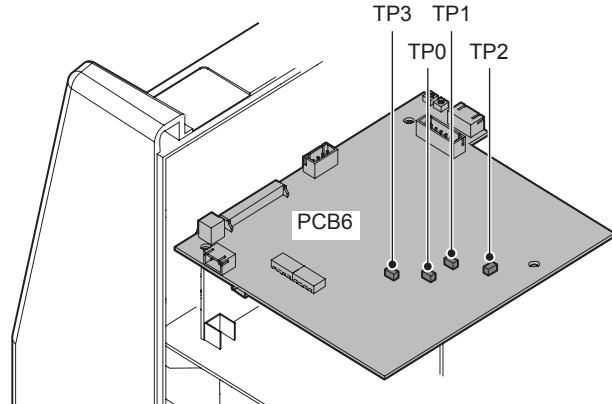

Figure 6-10: Checkpoints TP0-TP3 on PCB6
2) On the PCB3 (WK-5548) and PCB6 (WK-5549), measure the voltages according to the following table. The check points and the reference are obtainable on the solder side of PCB4 (WK-4819). The locations of points are indicated in Figure 6-10, 6-11.